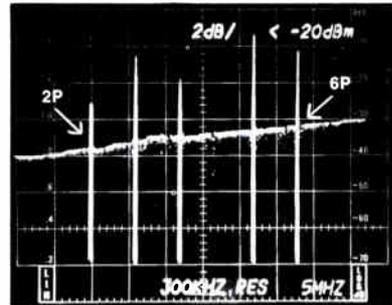

Figure 3
9) Increase the persistence or use storage to hold the display as in Figure 3.
11) Again, using 2 dB/DIV and storage, results will be obtained similar to Figure 3.